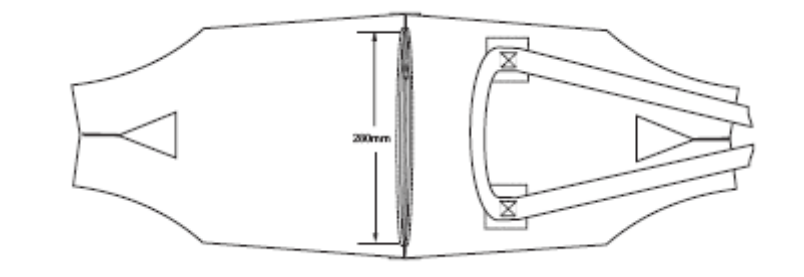

Figure A.6 – Joining the inside and outer collar cover
3.2.2.2 Sew the 280 mm zipper (component 6.5) to the inside and outer collar cover fabric (component 1.5) as in figure A.6.